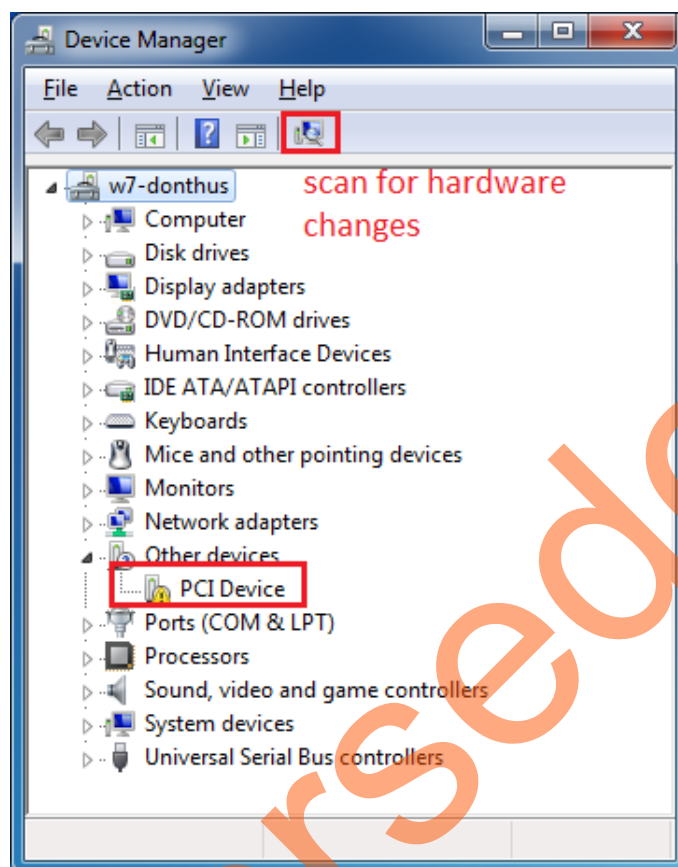

Figure 10 • Device Manager - PCIe Device Detection
4. Power on the host PC and check the **Device Manager** of the host PC for **PCIe Device**. Figure 10 on page 16 shows the example **Device Manager** window. If the device is not detected, power cycle the IGLOO2 Evaluation Kit and click **scan for hardware changes** option in the **Device Manager** window.